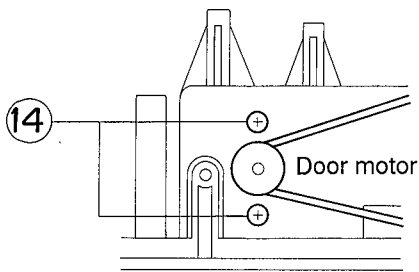
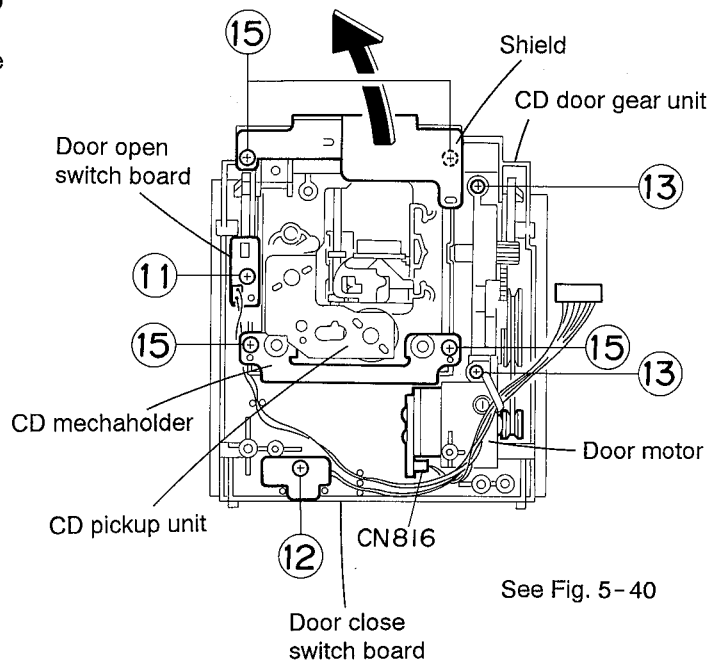

Fig. 5-41
Fig. 5-40
- Remove the three screws (10) retaining the CD servo control P.C. board.
- Remove the one screw (11), and dismount the door open switch P.C. board. (See Fig. 5-40)
- Remove the one screw (12), and dismount the door close switch P.C. board. (See Fig. 5-40)
- Remove the two screws (13) retaining the CD door gear unit. (See Fig. 5-40)
- Remove the two screws (14) retaining the door motor from the side face, and dismount the door motor and pulley. (See Fig. 5-41)
- Remove the four screws (15) retaining the shield and CD mechanism holder, and dismount the mechanism holder.
- Remove the CD mechanism while pulling it out from the turntable. (See Fig. 5-40)